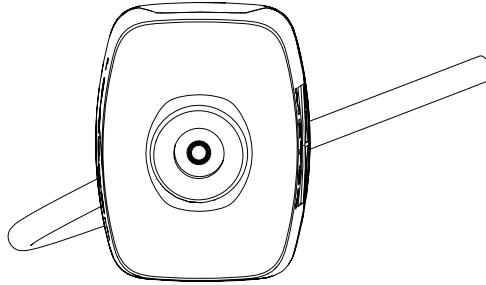

Figure 14 O-ring inside sensor unit
If water potential rises slowly or not at all even though the TEROS 31 is properly filled, the O-ring inside the sensor unit (Figure 14) may be worn out and needs to be replaced.
2. Use needle-nose or surgical tweezers to remove the old black O-ring (Figure 14).